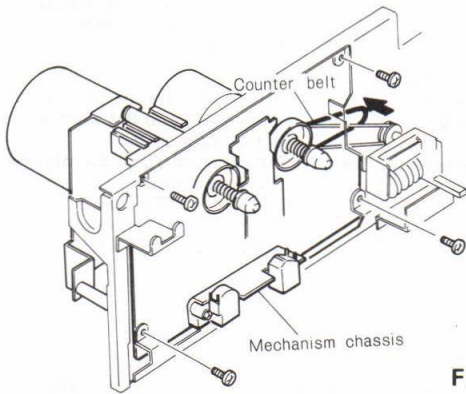

Fig. 6
- 1) Detach the counter belt and remove the 4 screws. (See Figure 6)